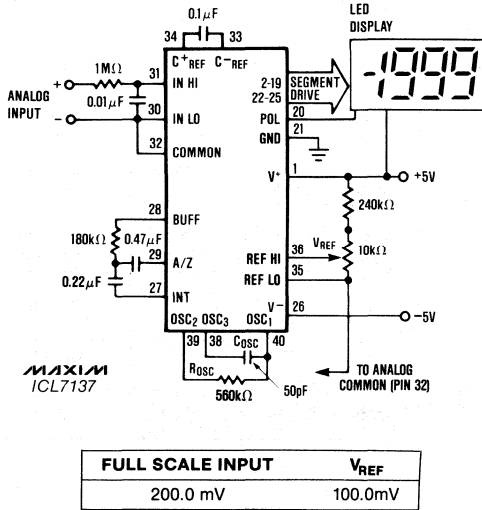

Figure 1. Maxim ICL7137 Typical Operating Circuit Clock Frequency 16kHz (1 reading/sec)
( $V^+ = 9V$ ;  $T_A = 25^\circ C$ ;  $f_{CLOCK} = 16kHz$ ; test circuit - Figure 1 unless noted.)
**Note 9:** Test condition is  $V_{IN}$  applied between the "Analog Input" pins (Figure 1).
**Note 10:** 1M $\Omega$  resistor is removed in Figures 1 and 2.